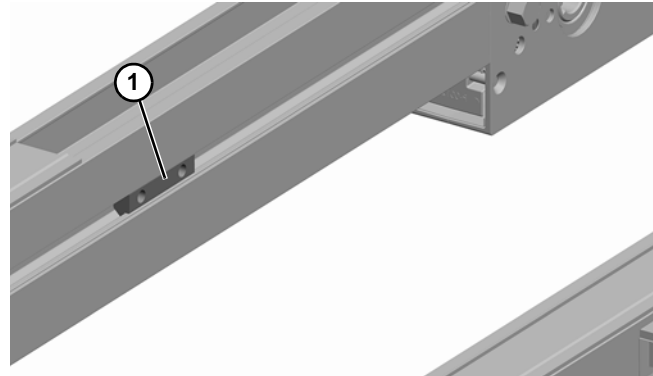

Figure 79
1. Install drop-in tee bar (**Figure 79, item 1**) in conveyor rail channel. Repeat for opposite conveyor rail.